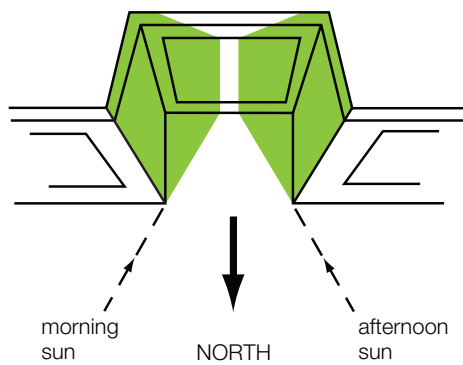

Figure 9: Deep north-facing courtyards are overshadowed by the side walls in winter
- > Be careful not to place rooms or garages where they will overshadow northern windows during winter mornings or afternoons. Avoid deep north-facing courtyards (see Figures 9 and 10).